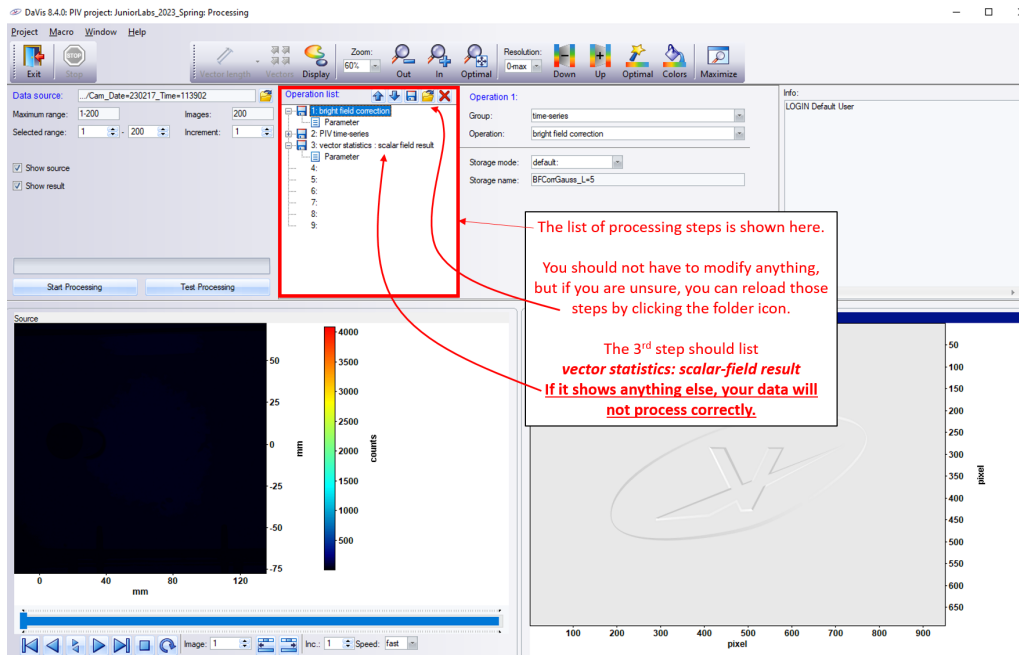

Figure 12: Processing module - Operation list.
- If the steps shown in the software are different (particularly if step c (vector statistics) shows **vector field** instead of **scalar field**), click Load icon from operation list, select **AOE 3054 Junior Lab PSV Processing** as shown in Figures 12 and 13. Make sure you click the "Load" button below the processing list once you selected it.
Figure 15: Available processed data if (a) the vector statistics results (see Figure 12 are set properly and (b) if the vector statistics results are set **improperly**